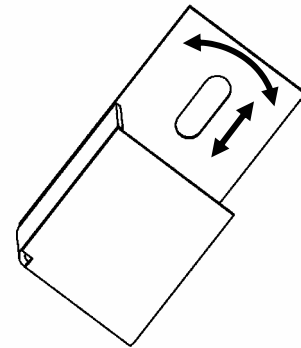

Figure 4-21
2. Loosen the bolt just until you can move the bracket. **DO NOT REMOVE THE BOLT.** The sensor bracket rotates and moves up and down in the slot on the bracket, as shown in Figure 4-21.